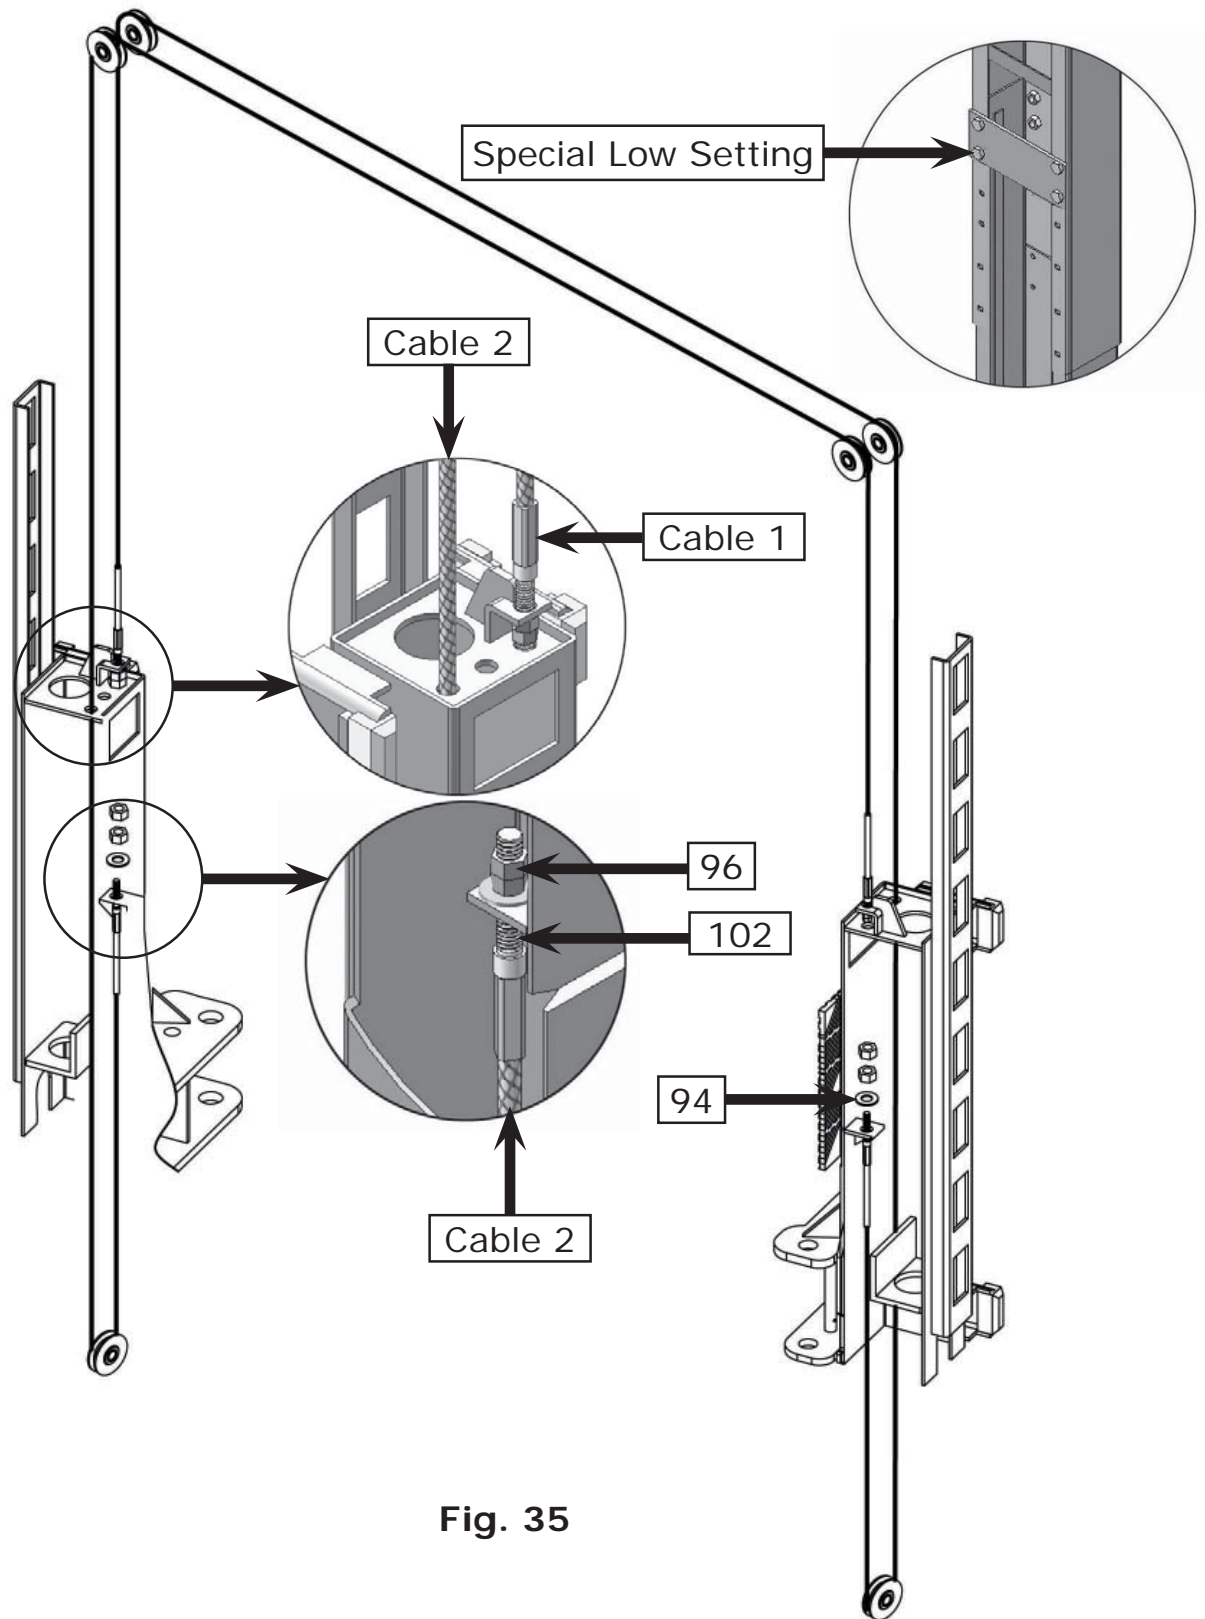

Fig. 35
3. **Special low setting cable connection PV10PX.** For a ceiling height between 3820mm (150 3/8") to 4250mm (167 3/8"). This setting requires the optional short cables (See Fig. 35).